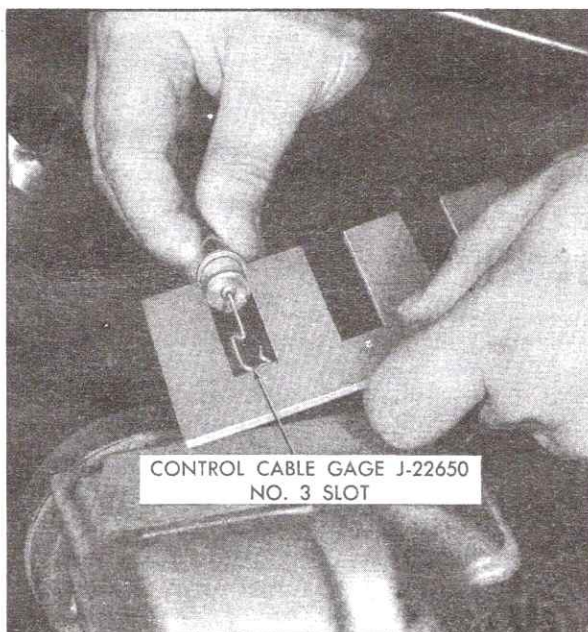

Fig. 15-12 Control Cable Check (All Except 693 Styles)
3. Position control cable in identical position as that shown in Fig. 15-12 on all but 693 style or Fig. 15-13 on 693 style, using No. 3 slot of Control Cable Gage, J-22650. End of hook should just touch stop on gage and legs of gage should bottom on ferrule. If adjustment is more than .005" off, adjust control cable as described in Note 18.